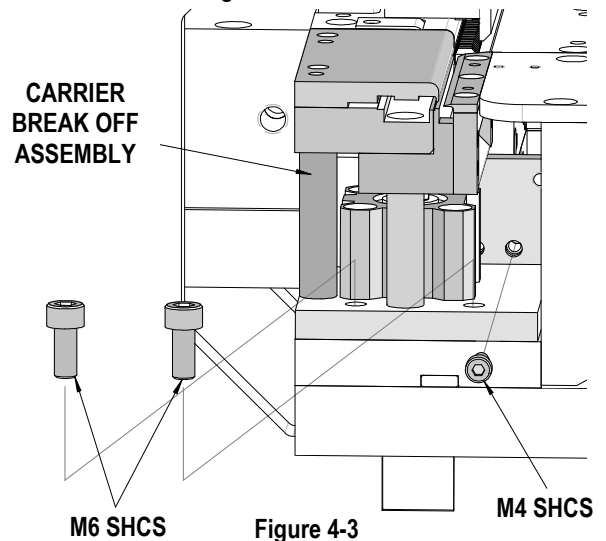

Figure 4-3
2. Install the breakoff assembly (without the strip chute) into the area where the gib was removed. The rear bolt hole and the two dowels will line up with the holes in the mating block. See Figure 4.3.